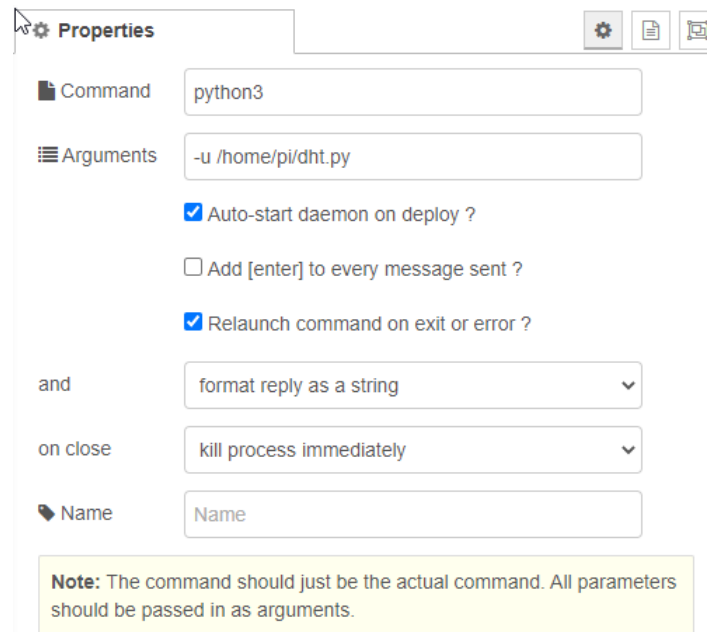

Figure 2.5: Configuring the daemon Node with `python3 -u /home/pi/dht.py`
- Double-click the daemon node to open its properties (Figure 2.5):